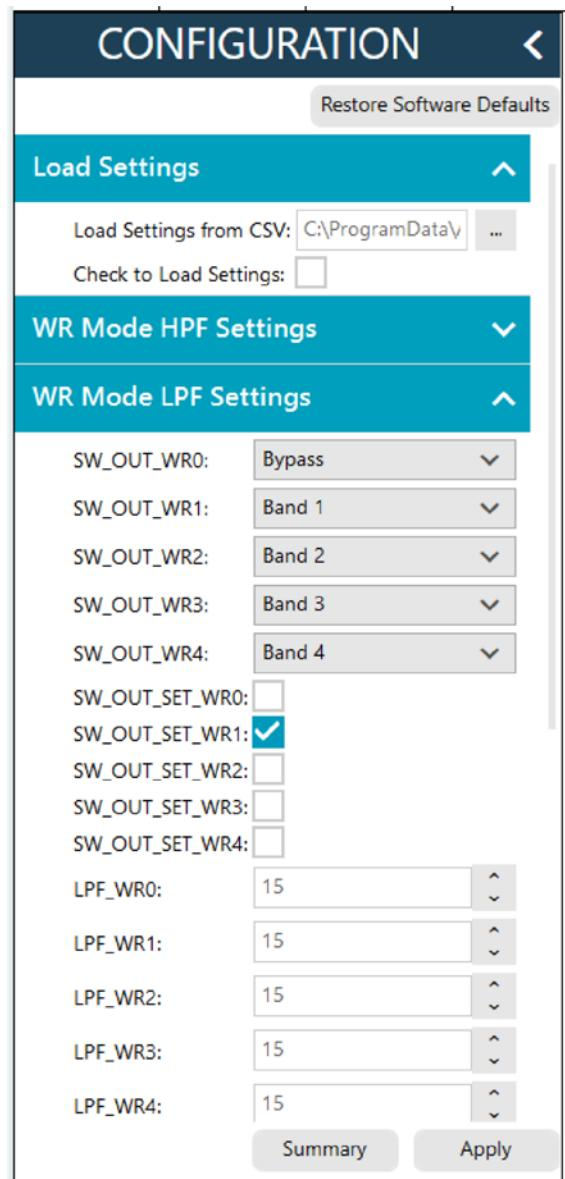

Figure 9. ADMV8818 **CONFIGURATION** Section
7. Use the **CONFIGURATION** section (see Figure 9) in the ACE software to initialize the chip. By default, the **ADMV8818\_Register\_Load\_1.csv** file is loaded into this section. Click **Apply** to send the default settings to the chip and to allow the main diagram user controls to become editable.
3. Click the ... button next to **Load Settings from CSV** to select which CSV file to load (see Figure 9).